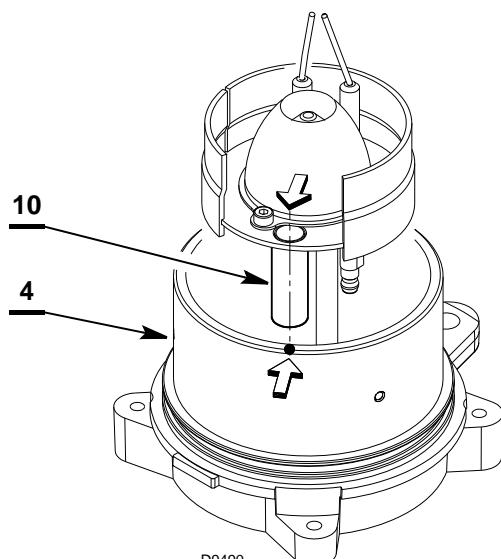

Fig. 26
- Refit the combustion head 7) and fix it with the screw 8) in the nozzle holder discharge 9) after making sure that the glass 10) on the combustion head 7) is oriented in such a way that its axis corresponds with the reference mark on the collar 4) (Fig. 26).